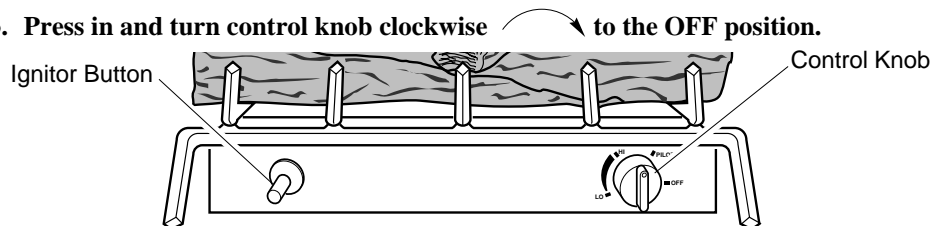

Figure 22 - Control Knob and Ignitor Button Location
- Press in control knob and turn counterclockwise  to the PILOT position. Keep control knob pressed in for five (5) seconds (see Figure 22).